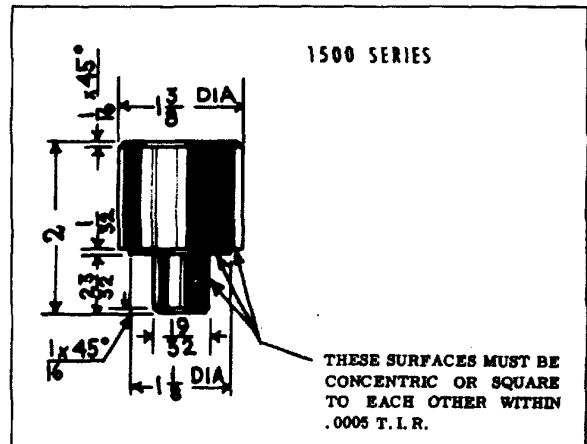

FIGURE 15 Tool Dimensions for Pressing Bearings
- j. Lubricate roller bearings with light grease. Coat I.D. of bearing bore with white lead. Press bearing assembly into bearing bore of adapter and cover with tool shown in Figure 15.